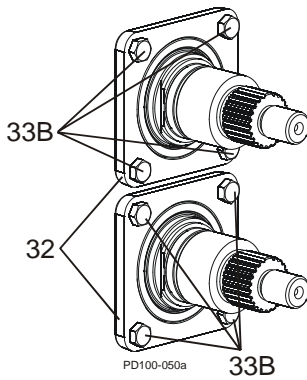

Figure 39 - Remove Bearing Retainers
3. Remove the front bearing retainer bolts (Figure 39, item 33B) and pull off the bearing retainers (item 32). (If a retainer is stuck, leave it in place; it will press out when the shaft is removed.)